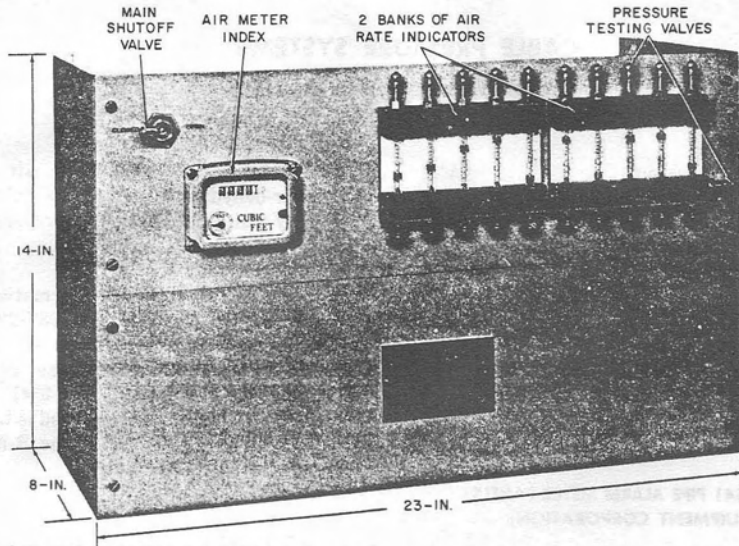
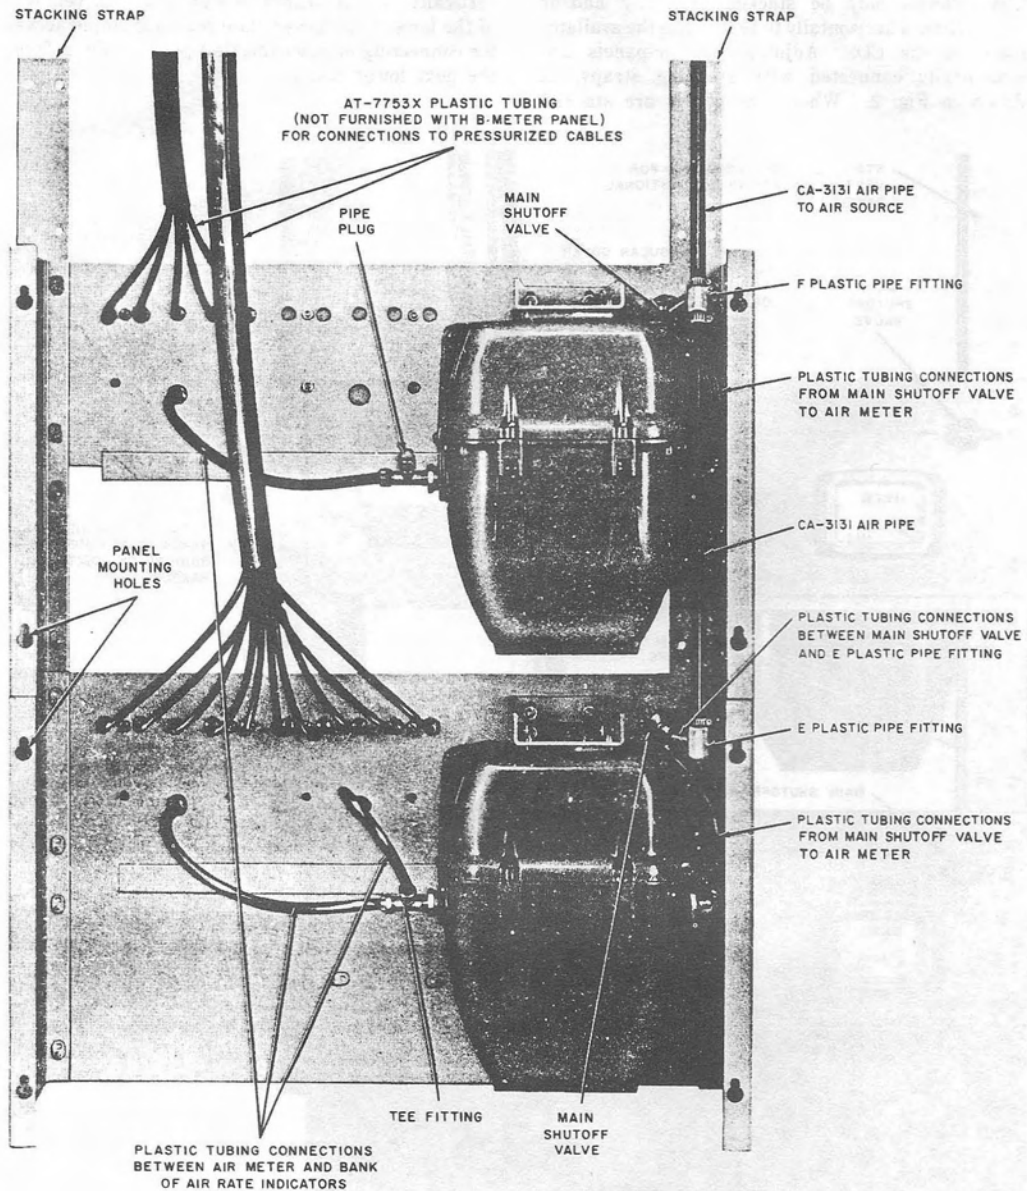

Fig. 1—B Meter-Panel
Fig. 3—Rear View of Stacked B Meter-Panels
**2.01** The B meter-panel (Fig. 1) is designed for use with nonpipe pressure systems. It consists of a main shutoff valve, a standard air meter, plastic tubing connections, and one or two banks of five air rate indicators mounted on a three-sided, enameled sheet steel chassis.
- (1) Place the main shutoff valve to the *closed* position (Fig. 1).
- (2) Remove the rectangular cover plate from the top section of the meter-panel.
- (3) Install the second indicator bank in the top section, using the four 1/2-20 by 3/8-inch long cadmium-plated RHMS which are provided with the indicator bank.
- (4) Replace the pipe plug from the tee fitting at the air meter with the 3/8-inch connector, which also is furnished. Install a length of 3/8-inch plastic tubing between the tee fitting and the new bank of indicators.
- (5) Install plastic tubing from the cable connection to each individual indicator, making sure that each ferrule is seated properly within the connector. Figure 3 illustrates the arrangement for a meter-panel, with a single indicator bank installed above a panel with two indicator banks.
- (6) Place the main shutoff valve to the *open* position.